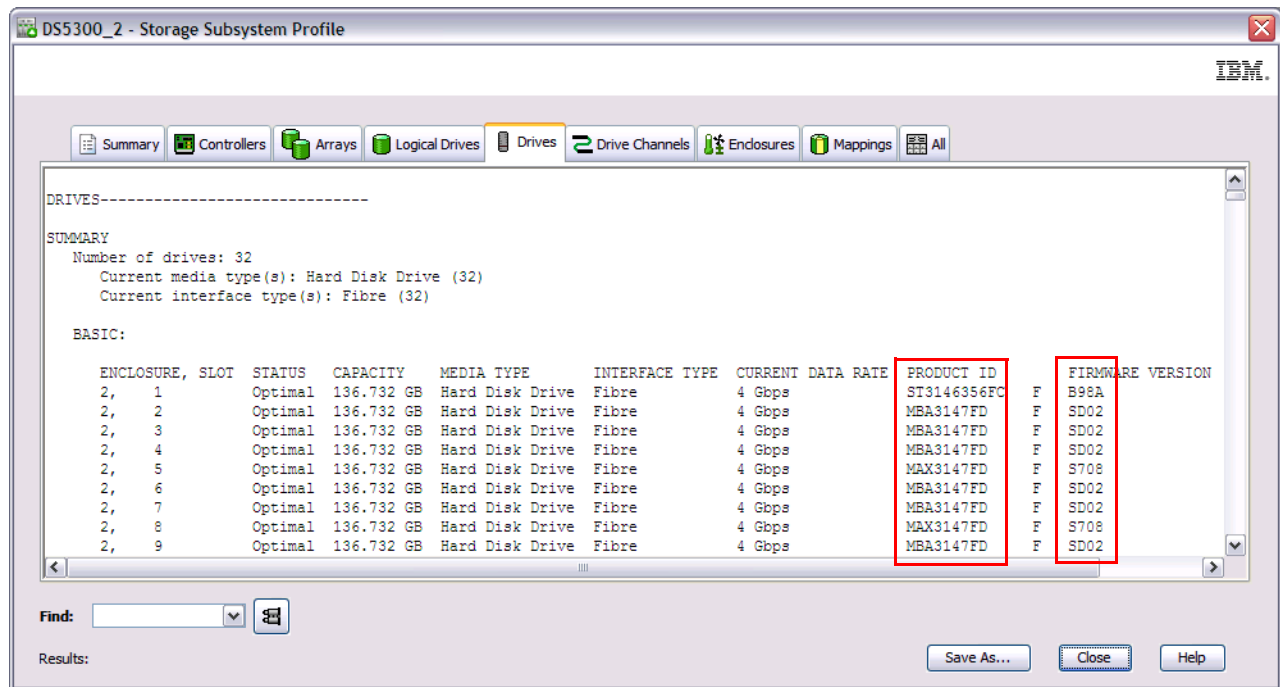

Figure 5-3 Drive firmware in Storage Subsystem profile
- Click the **Drives** tab to see the drives information. Scroll to the right side of the window until the column Firmware Version is visible. Be aware that you might have different drive types in your enclosures, so you can find multiple versions. See Figure 5-3.